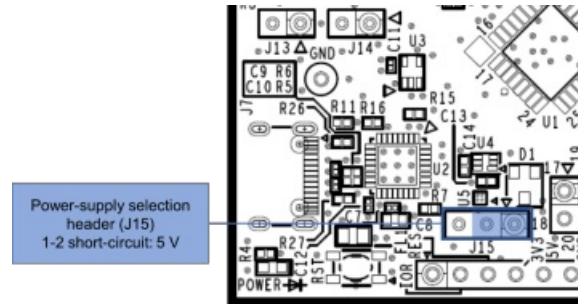

Figure 5-5 Setting of the Header to Select a 5-V Power Supply (Top Side)
- 1-2 of J15 being short-circuit selects a 5-V power supply. This is the default setting as shipped (Figure 5-5).